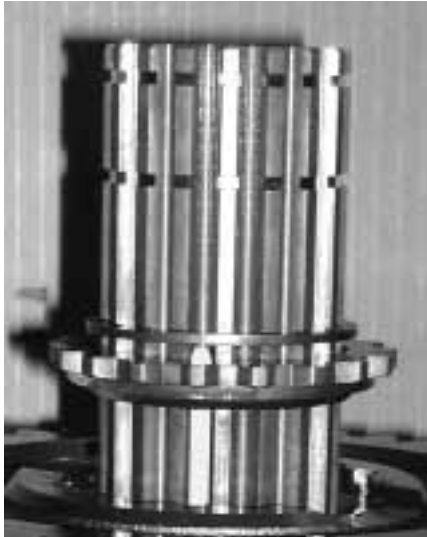

Figure 65 – Installation of Key Retaining Ring
- o.** Install the snap ring in 6th groove of mainshaft to retain the key in the keyway as shown in Figure 65.